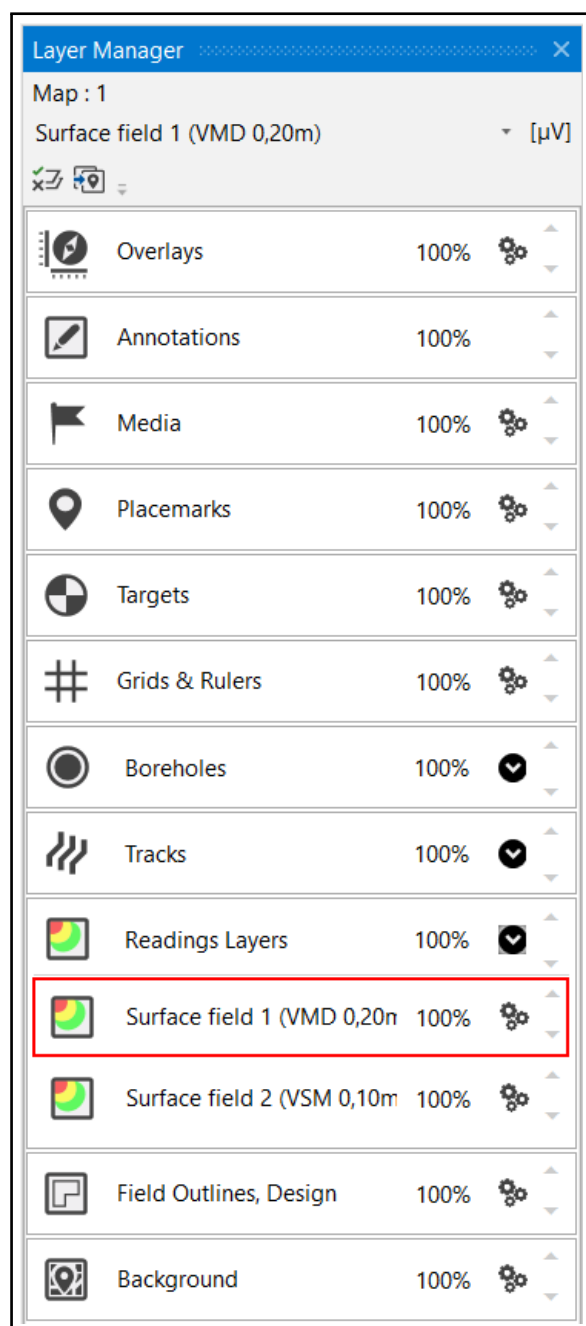

Fig. 4.6.1: Layer manager
Under the layers *Boreholes*, *Tracks* and *Readings Layers*, further layers, if generated, are displayed after clicking on the button (4), e.g. readings layers of fields (see also fig. 4.6.1).